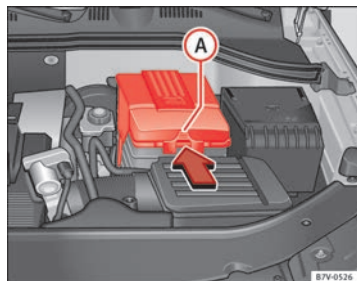

Fig. 175 In the engine compartment: Remove the cover from the vehicle's battery.
- In the case of a cover: press the tab ⇒ fig. 175 A in the direction of the arrow and pull the cover upwards.